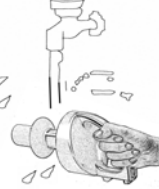

Fig. 14
8. To Separate the Debris Screen from the dust cup, hold the dust cup in one hand and turn the dust cup cover counter clockwise and pull apart. To clean the Debris Screen, we recommend that you rinse it under lukewarm running water to remove the dirt that accumulates on it, but always allow it to completely air dry before inserting back into the vacuum. (Fig. 14)